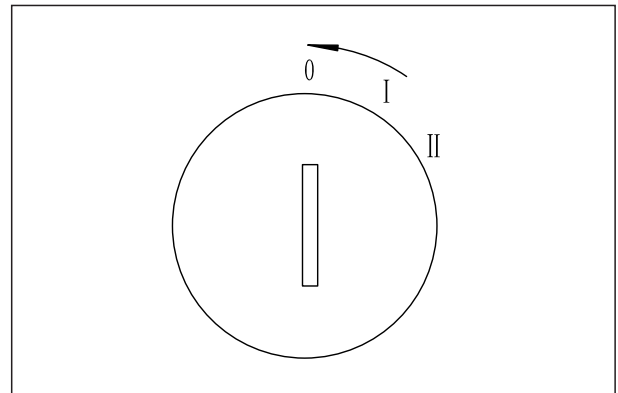

Fig 4.27
6. Turn the ignition key switch to the 'OFF' position ('0'). (see Fig 4-27).